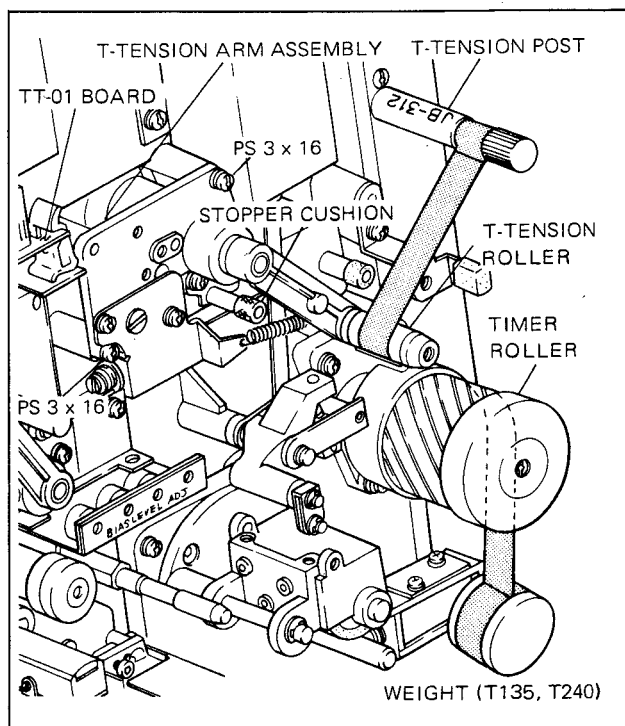

Fig. 10-8. T-Tension Arm Replacement
1. Install the T-tension post (the part of the prepared adjustment tool) in the position shown in the right of Fig. 10-8. Apply the weight marked T135 as shown in the figure.